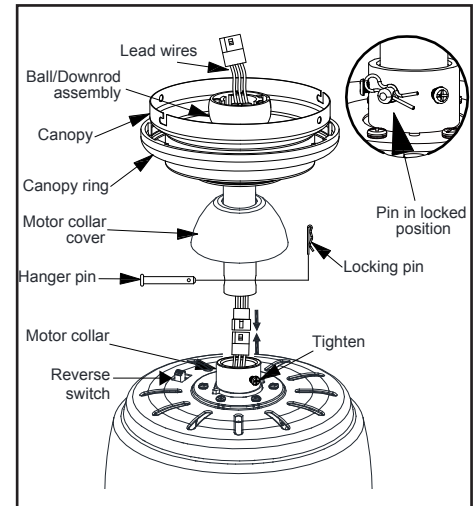

Figure 7
4. Place downrod over canopy and canopy ring. Slide the motor collar cover onto the downrod. Connect the extension lead wires to the lead wires from motor. Make sure the quick connectors are clasped firmly. Route the wires through the ball/downrod assembly. (Figure 7)
6. Align the holes at the bottom of the downrod with the holes in the collar on top of the motor housing. (Figure 7) Carefully insert the hanger pin through the holes in the collar and downrod. Be careful not to jam the hanger pin against the wiring inside the downrod. Insert the locking pin through the hole near the end of the bolt until it snaps into its locked position, as noted in the circle inset of Figure 7.
The fan shipped from the factory with the reverse switch positioned to circulate air downward. If airflow is desired in the opposite direction, turn your fan off and wait for the blades to stop turning, then slide the reversing switch (refer to figure 7 on page 4) to opposite position, and turn fan on again. The fan blades will turn in the opposite direction and reverse airflow.”